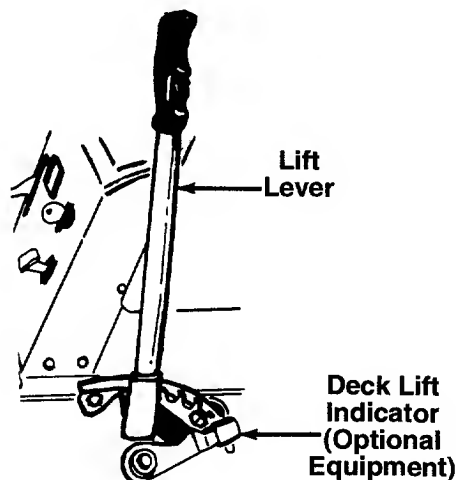

FIGURE 11.
NOTE: The lift lever **must** be in the disengaged position when starting the engine, when shifting into reverse and if the operator leaves the seat. See figure 11.
If so equipped, the deck lift indicator marks the position being used for the lift lever. Select the lift lever position desired, press the indicator lever outward, move it to the position immediately below the lift lever and release the indicator lever. See figure 11.
2. Place the lift lever in the DISENGAGED position. See figure 11.